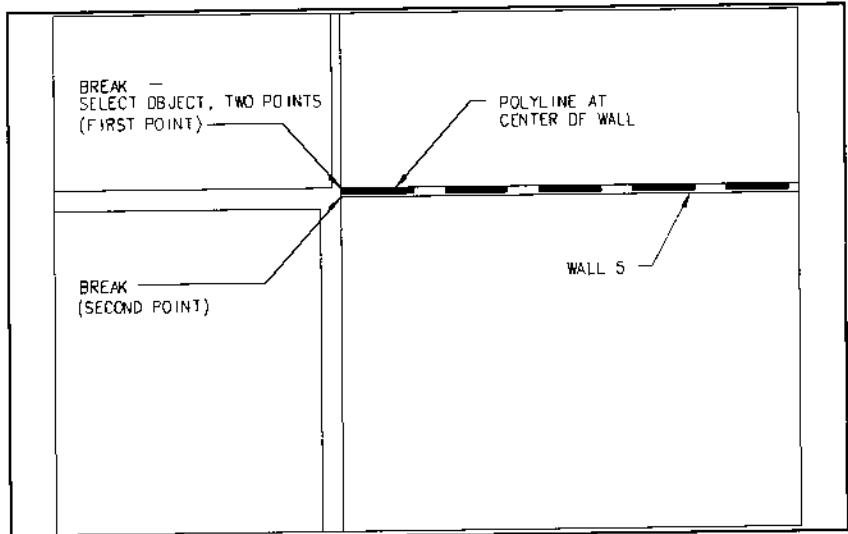
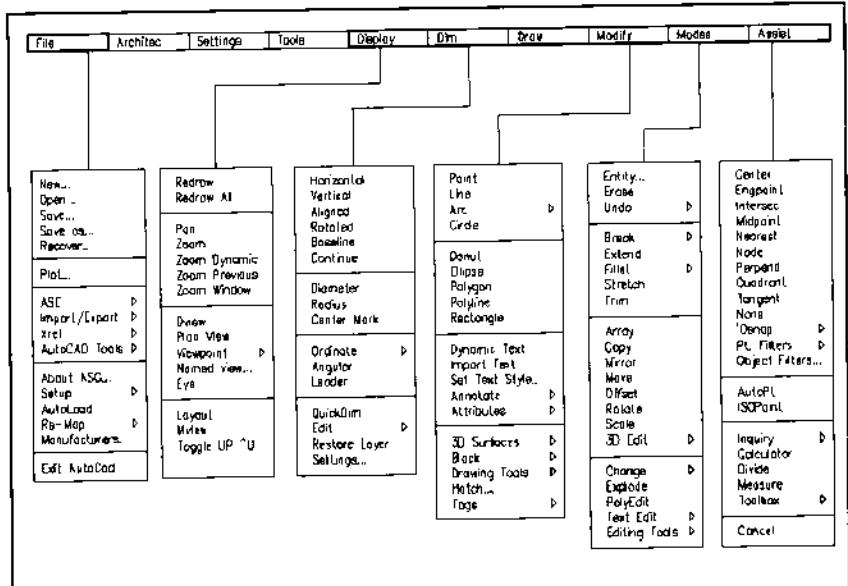

Figure 29.
Figure 30.
2. Use AutoCAD's Trim or Break command from the AutoCAD/ASG Modify pull-down menu to trim the intersection adjacent to the Entry area. The intersection condition before cleanup is shown in Figure 29. The entire AutoCAD/ASG pull-down menu is shown in Figure 30.
3. If you select Break, pick the Select Object, Two Points command as shown in Figure 29.
- > Enter first point: INT of [first intersection as shown in Figure 29]
- > Pick wall line - POINT 1 (NEAREST): [using the default osnap option, pick POINT 1 inside the building as shown in Figure 30]